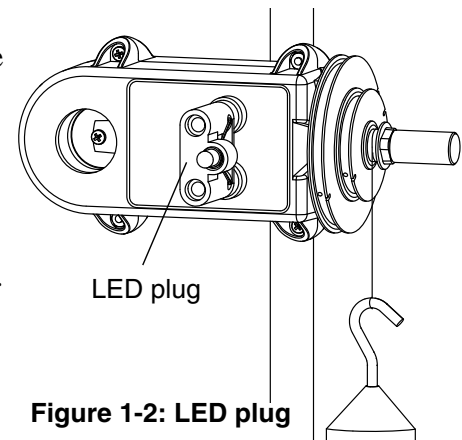

Figure 1-2: LED plug
1. For demonstration: Insert the plug with the light-emitting diode (LED) into the banana jacks and watch the LED light as you turn the generator (Figure 1-2). The red/green light diode shows that the generator produces an AC voltage.